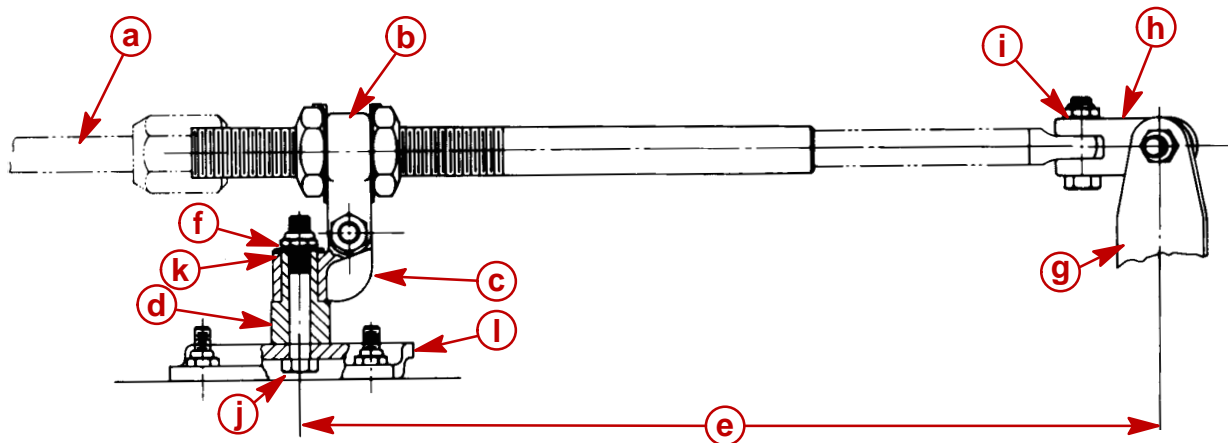
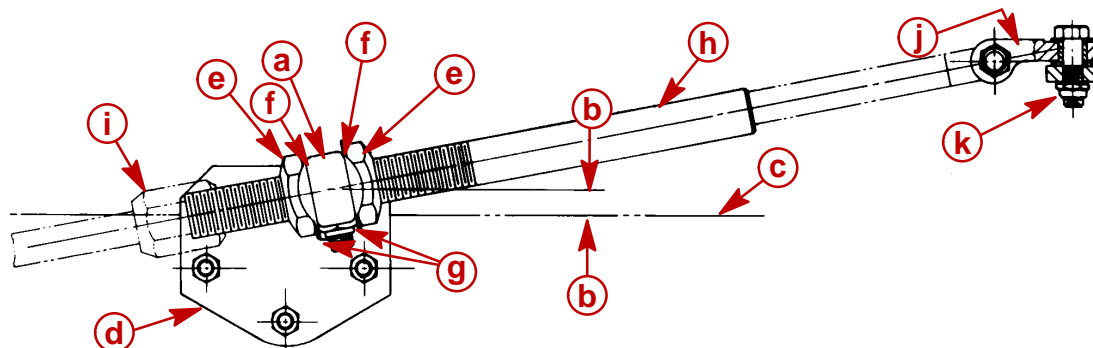

Figure 1
Figure 3
1. Lubricate both holes in pivot block (Figure 1) with Quicksilver 2-4-C w/Teflon.
2. Place pivot block on pivot spacer and secure to transom bracket with 3/8 in. x 2-1/2 in. (9.5 mm x 63.5 mm) bolt, flat washer and locknut, as shown in Figure 1. Torque locknut to 20 lb. ft. (27 Nm).
- Place Ride-Guide yoke on pivot block and secure with 7/16 in. x 1-3/4 in. (11.1 mm x 44.5 mm) bolt and locknut, as shown in Figures 1 and 2. Torque locknut to 10 lb. ft. (13.5 Nm), **then back off 1/4-turn.**
- Install one cable tube jam nut onto steering cable tube. Place tab washer over Ride-Guide yoke, then insert cable tube thru tab washer and yoke. Install second cable tube jam nut onto cable tube but do not tighten at this time. (Figure 3)
- Determine centerline of outboard, then measure 15 in. (38.1 cm) over from this centerline and draw a vertical line on transom. (Figure 1)
- b. Position attaching kit on transom so that **transom bracket is centered on the 15 in. (38.1 mm) measure** (Figure 1), at the height where the **center of the Ride-Guide yoke is even with, or not more than 1/2 in. (12.7 mm) above top edge** of transom. (Figure 3)
2. Install steering cable thru steering cable tube, and secure with cable attaching nut. (Figure 3) Do not tighten cable attaching nut at this time.
4. Adjust 2 large jam nuts on cable tube of attaching kit, so that **steering wheel** is in normal straight-driving position with outboard in straight-running position. Torque each jam nut to 35 lb. ft. (47.5 Nm), then bend a side of tab washer against flat of each jam nut. (Figure 3)
5. Torque Ride-Guide cable attaching nut (which secures cable to guide tube) to 35 lb. ft. (47.5 Nm). (Figure 3)
4. Check steering system fasteners (at intervals specified, preceding) to be sure that they are torqued to correct specifications. (Figures 1, 2 and 3)